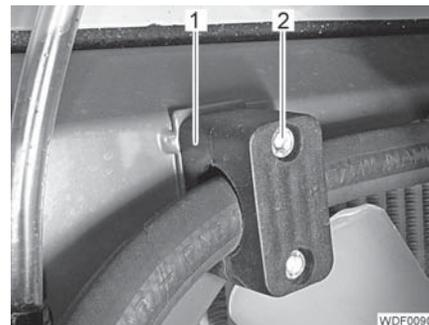

Fig. 74 Hydraulic line attachment
- Unscrew the 2 screws (Fig. 74,2).
- Remove the attachment (Fig. 74,1).